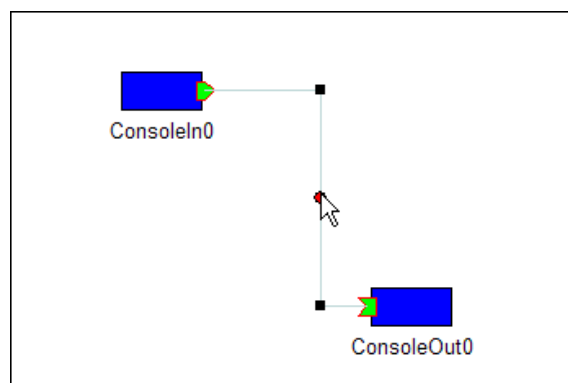

Fig. 4.19: Moving elbow lines
**Moving connection lines** If the line connecting 2 ports makes an elbow, it is possible to move it. A left click on such a line will make red markers appear on the segments of the line that can be moved. Dragging one of the red marker will make the line on which it lies move along. An horizontal line can be moved up and down while a vertical line can be moved right and left (Figure 4.19).